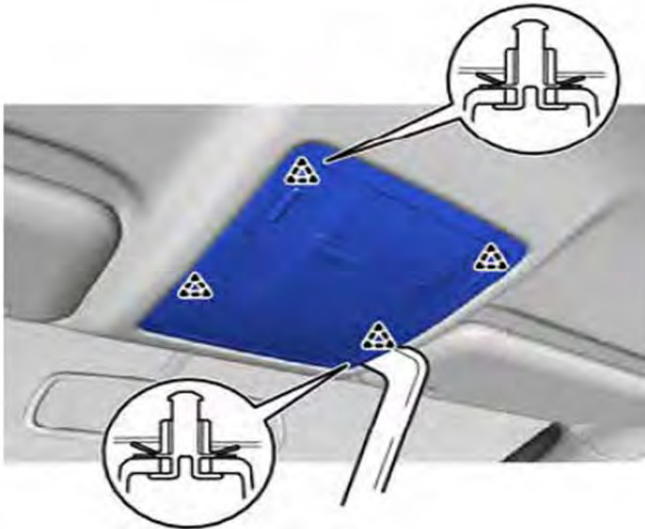

Figure 3
3. Detach the 4 clips. Disconnect the connector to remove the roof console box. See Figure 3.